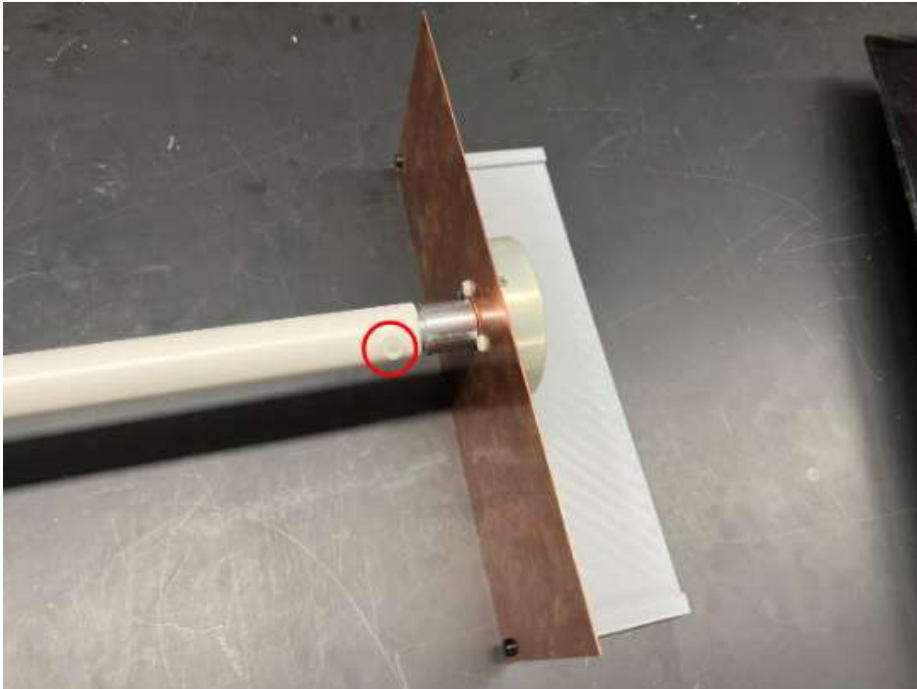

Figure 21: Attaching driveshaft to Motor assembly
2. Connect the other side of the 4' driveshaft to motor assembly via a M10 screw and nut as illustrated in figure 21.